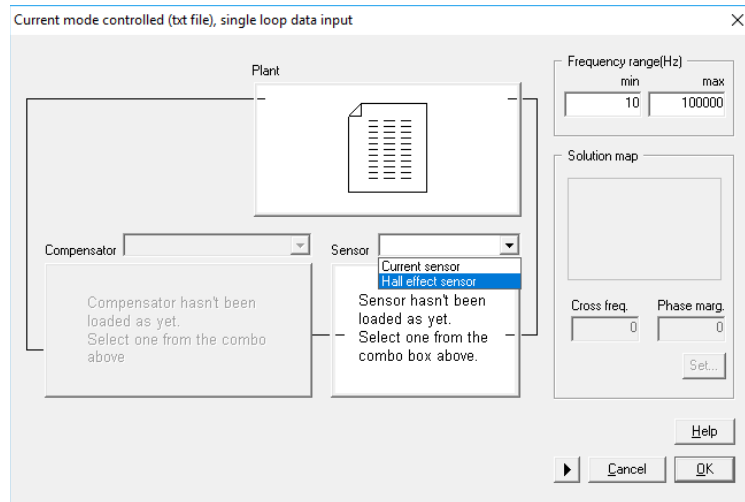
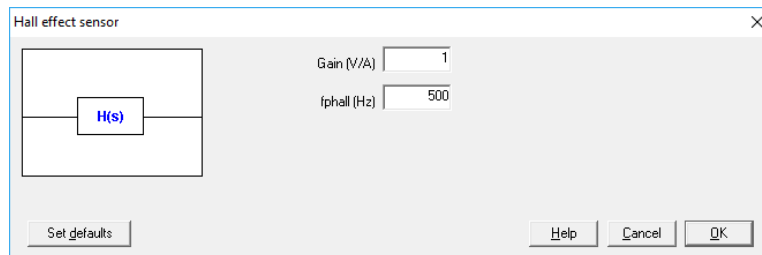

Figure 8: Current sensor choices
Figure 9: current sensor parameters
3. Specify the current sensor. See Figure 8 and Figure 9.
The current sensor specification window is automatically shown. It is necessary to set the sensor gain and the bandwidth (pole frequency) of the Hall effect sensor. Then, press OK. Type the values shown in Figure 9